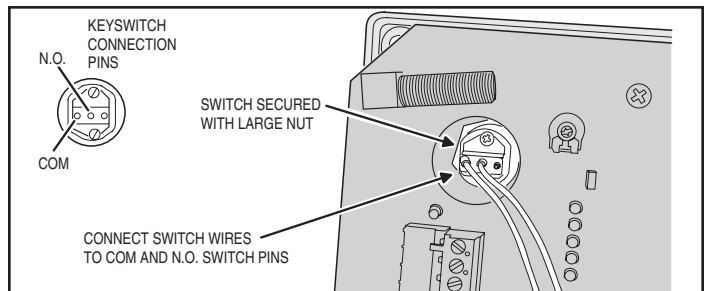

Figure 22. Keyswitch Wire Connections
3. Plug the two keyswitch snap-on wire leads (supplied with the switch) onto the keyswitch **COM** and **N.O.** pins (see Figure 22).